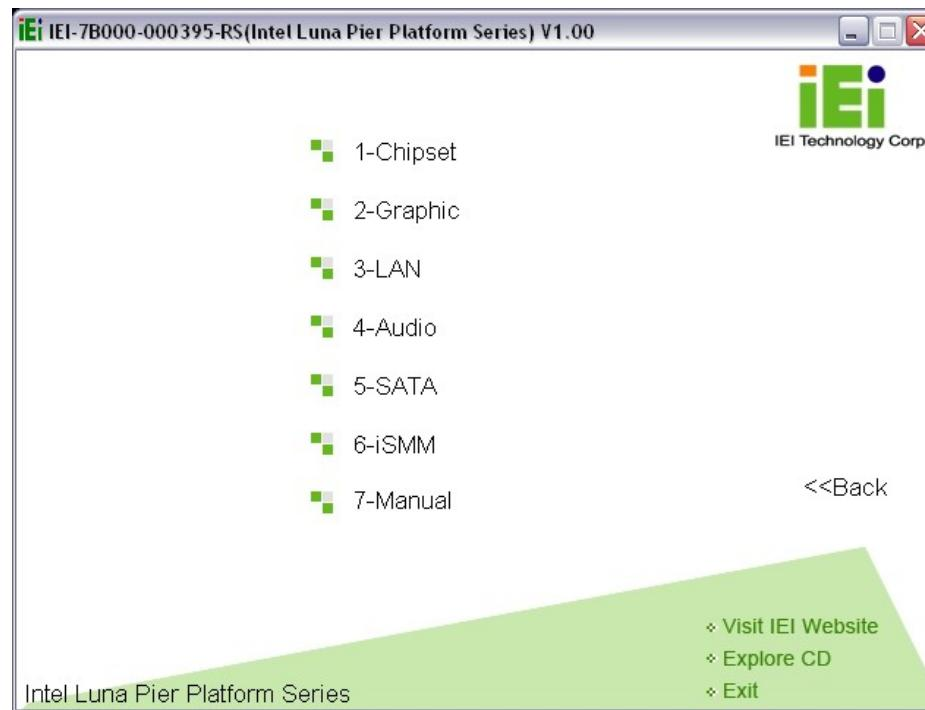

**Figure 4-15: Introduction Screen**
**Step 2:** The driver main menu appears (**Figure 4-15**).